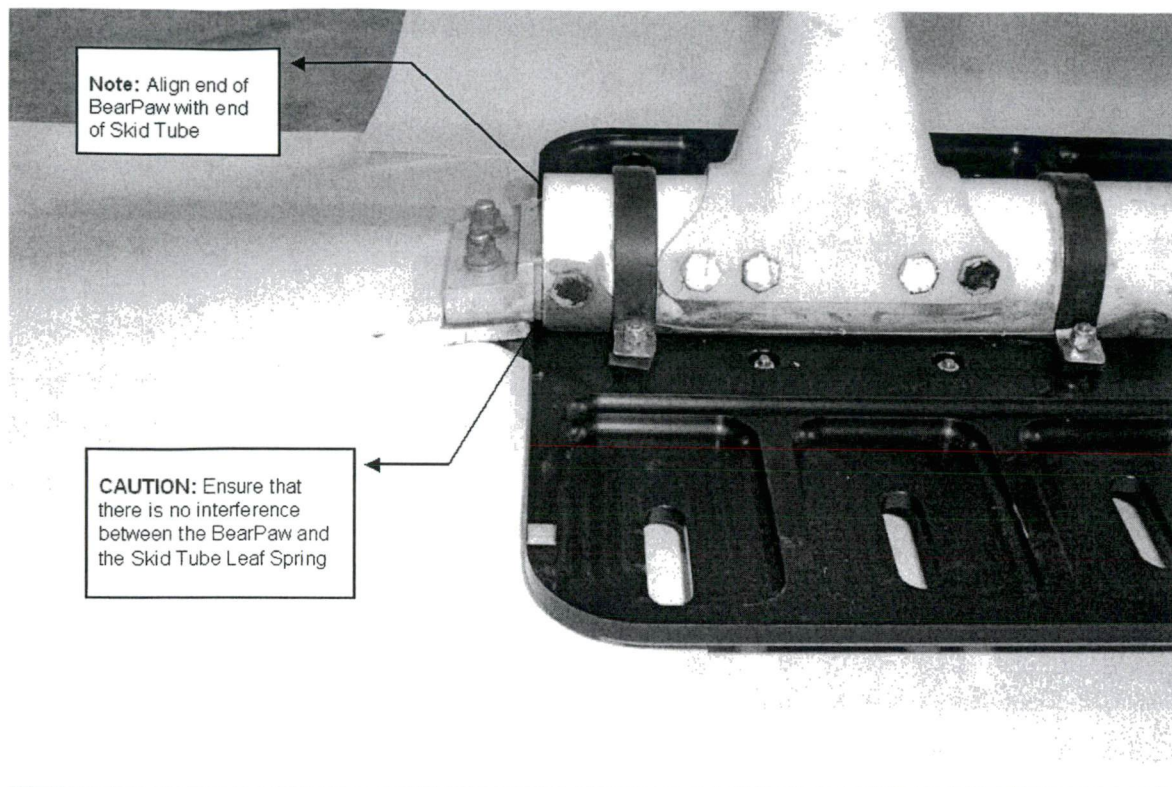

Figure 1 – BearPaw Model BP350 (P/N 112-0002-00 or P/N 112-0002-00-S) - Alignment on Skid
- Position the BearPaw under the skid as shown in Figure 1 with narrow edge pointing forward.